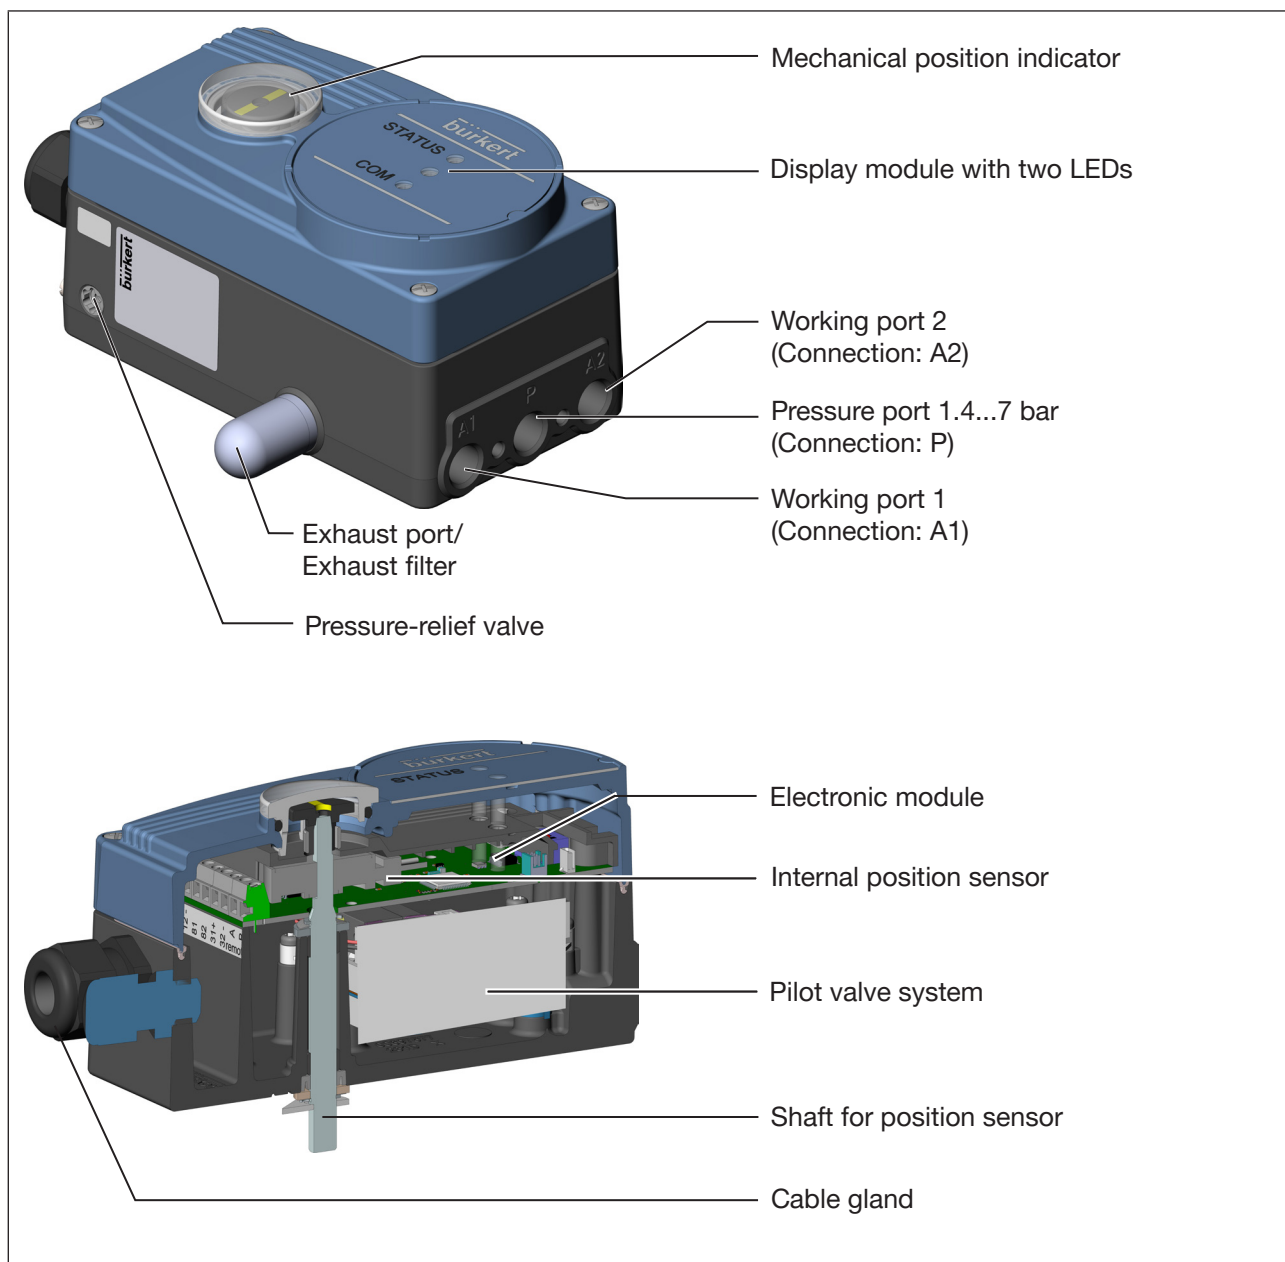

Fig. 1: Structure, positioner Type 8791
7) When using the positioner under IP67 conditions, the exhaust filter (see "Fig. 1: Structure, positioner Type 8791") must be removed and the exhaust air led to the dry area.